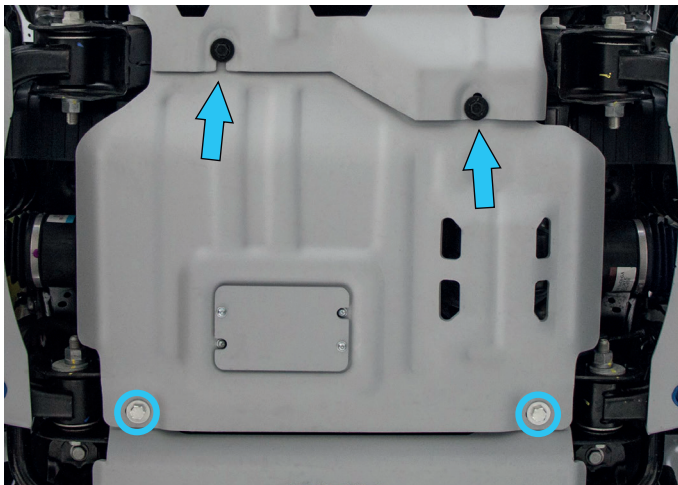
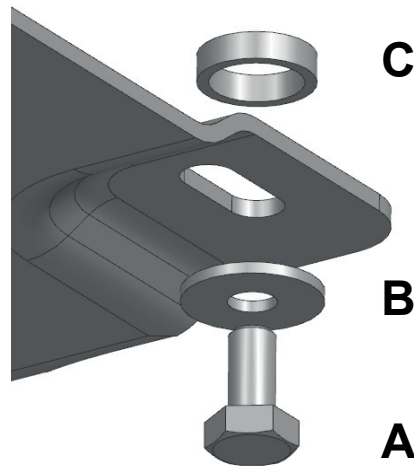

Fig. 3
Fig. 4
2. Slide front of the skid plate (item 1) under the previously installed M10x30 bolts and M10 washers from step 1. Secure the rear of engine skid plate as shown in fig.3 using M10x30 bolts (item A), M10 washers (item B) and spacers (item C) as oriented in fig.4